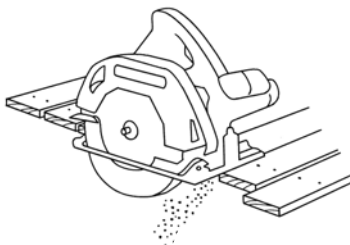

Fig 14 Trim the deck timbers. Note: Use Timber Reseal on any exposed CCA timber ends, this protects any exposed CCA timber from rot and fungi.
- Finally, trim the excess from the end of the deck flush with the ends of bearers by using a chalk line to snap a straight edge and a circular saw to trim the timbers (Fig 14).